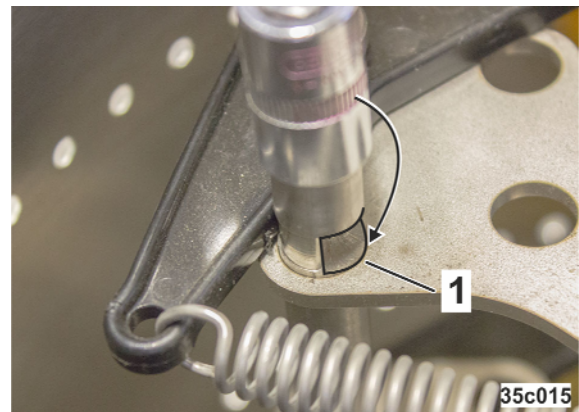

Fig. 329
3. The groove (Fig. 329/1) must be completely released from the actuation lever (Fig. 327/2), the relief pin is in parking position (hole covering rollers are tension-free).